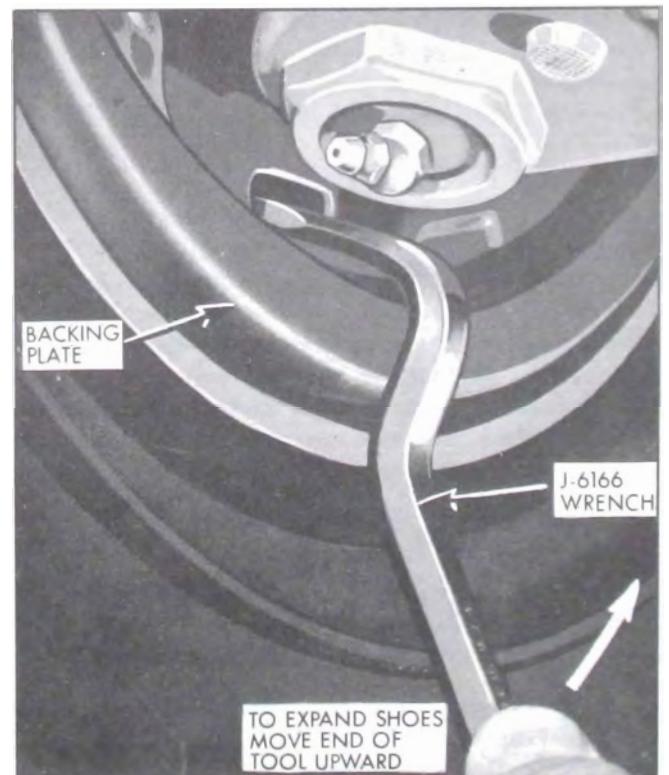

Figure 9-9—Adjusting Right Front Brake Shoes
1. Remove adjusting hole covers from brake backing plates. Using suitable tool to turn brake adjusting screw, expand brake shoes at each wheel until the wheel can just be turned by hand. Moving end of tool in hand upward expands the shoes. See Figure 9-9. The drag should be equal at all wheels.